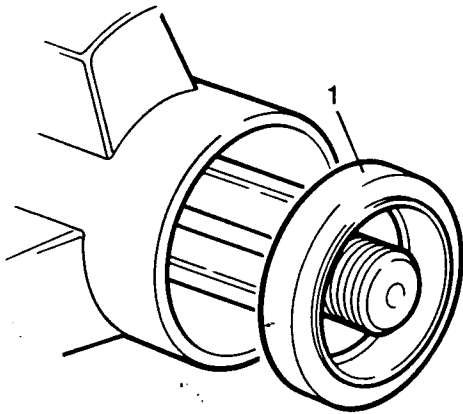

Fig J2.39
- (13) Refer to Fig J2.39. Fit the pinion oil seal (1), lipped side first, using a general purpose grease or, where available, a molybdenum disulphide based grease on the lip seal.